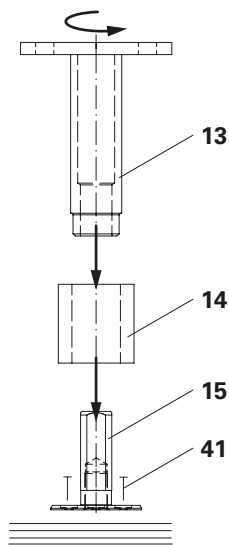
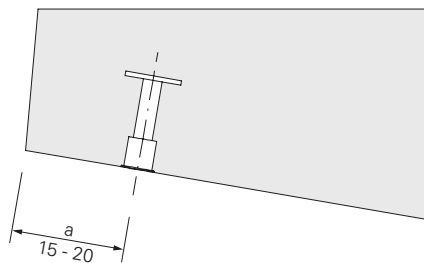

Fig. A5.01
Fig. A5.01a
Take into consideration edge spacing "a" (Fig. A5.01 + Fig. A5.01a)
3. Screw Anchor Sleeve M24 (**13**) onto the Anchor Position. M24x65 mm (**15**) as far as it will go. (Fig. A5.01)